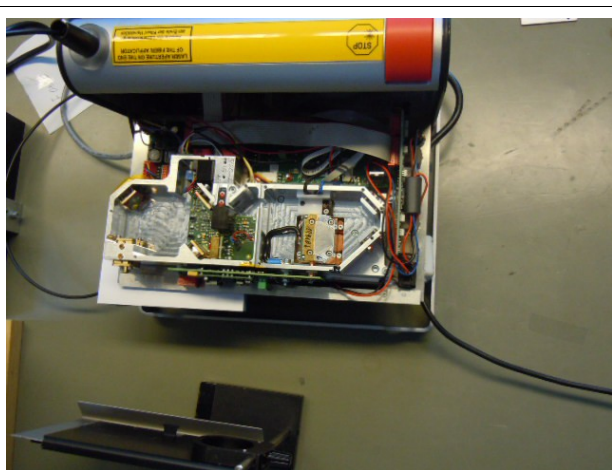
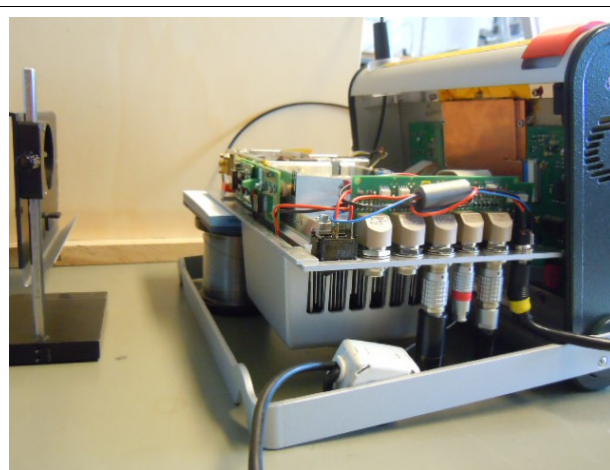

Figure 37: Service position
Figure 38: Service position
- First place the laser in this position (see Figure 37: Service position, Figure 38: Service position, Figure 24 Opening of the housing - Service position) remove also the fiber and the small port around the fiber